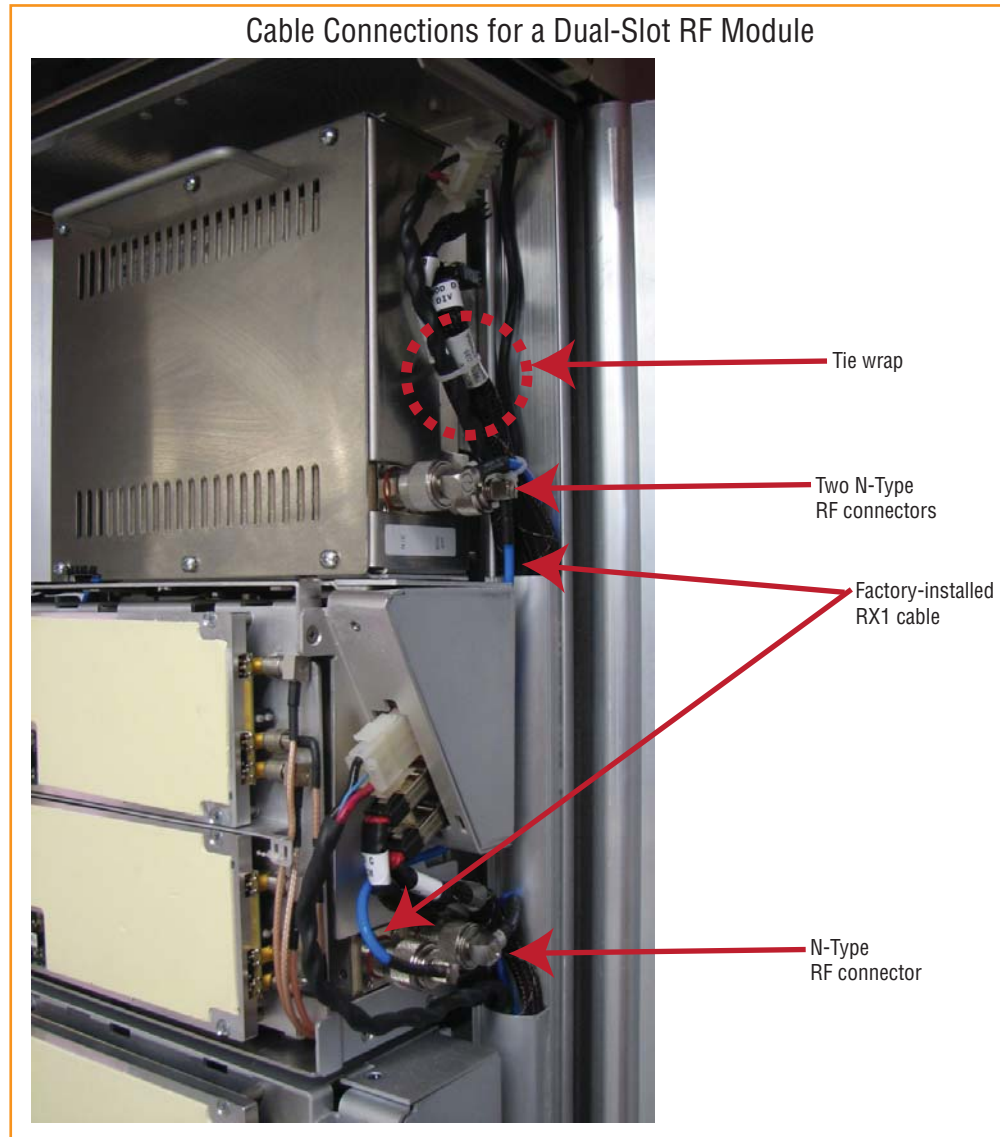

Figure 23. Cable Connections for Dual-Band Dual-Bay RF Modules
- Dual-Bay RF Module: Figure 23 on Page 37